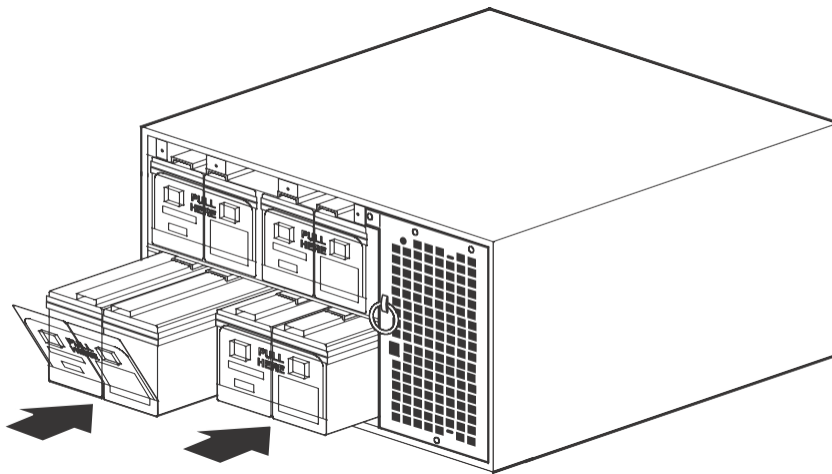
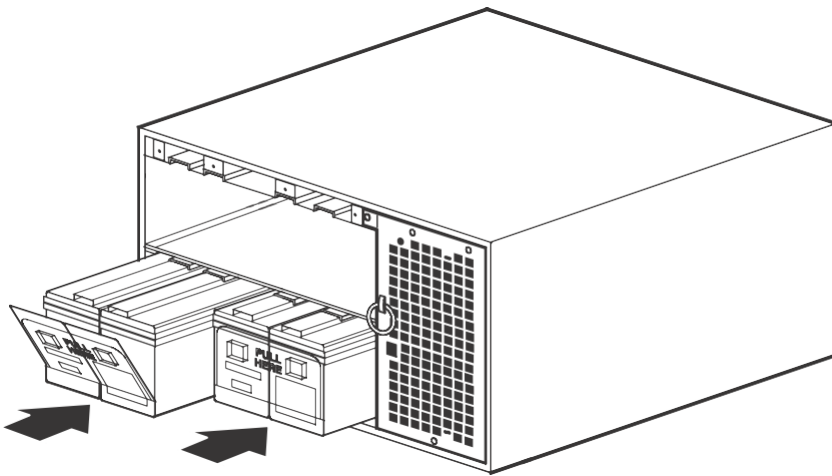

Figure 85. Installing the UPS Battery Trays (Two Battery Strings)
Figure 86. Installing the UPS Single-string Battery Trays for BladeUPS 5.0 kVA
5. Slide the new battery trays into the cabinet (see Figure 85 for two battery string installations and Figure 86 for single-string installations). Verify that each tray is properly aligned before sliding in the tray.
3. Remove the UPS front cover and the electronics module and set them aside (see Figure 85):
9. Remove the UPS front cover and the electronics module (see Figure 85 on page 126):